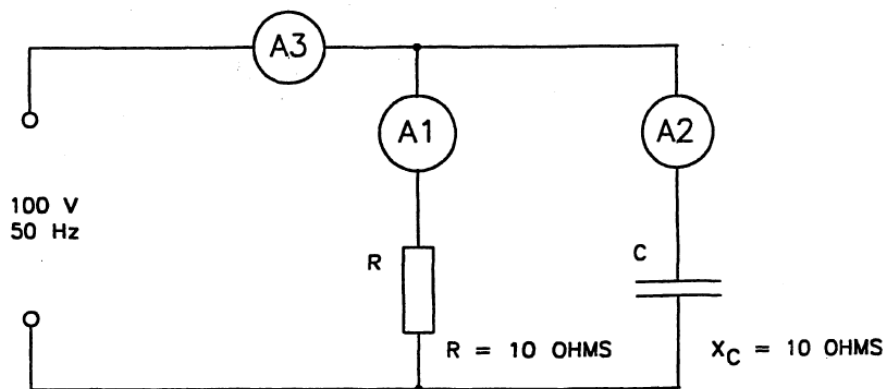

Figure 5 – RC parallel circuit
34. If a resistor with a resistance (R) of 10Ω was connected in parallel with a pure capacitor with a capacitive reactance (X_c) of 10Ω , and the supply voltage was $100V_{ac}$, the circuit could be drawn as shown in Figure 5.
35. The current flowing in each individual component of the circuit in Figure 5 could be calculated using Ohm's Law.